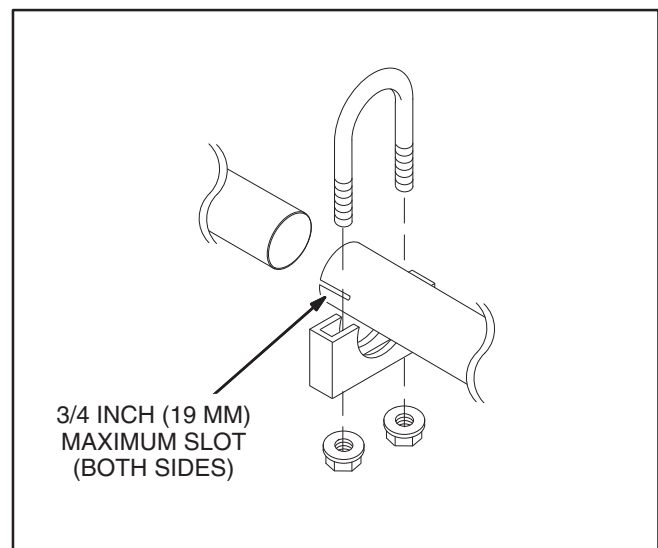

FIGURE 7. EXHAUST TAILPIPE CONNECTIONS
3. Use U-bolt muffler clamps to connect sections of tailpipe. It is recommended that the overlapping pipe be slotted as shown in Figure 7.